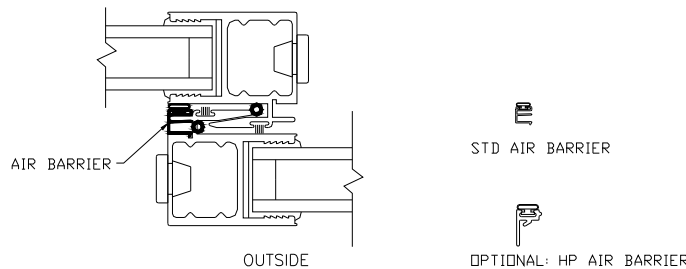

Figure 21
- Two 6" plastic air barriers (per interlocker set) are provided in the screw pack. Snap these in the back of all exterior interlockers at the top and bottom (See Fig. 21).